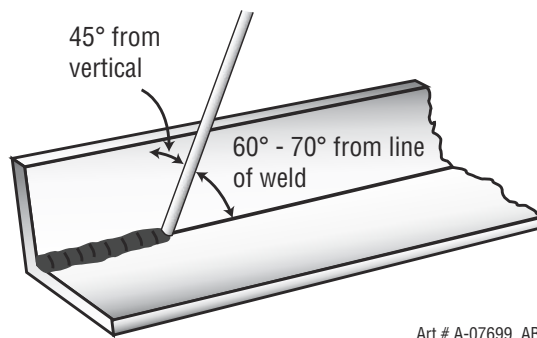
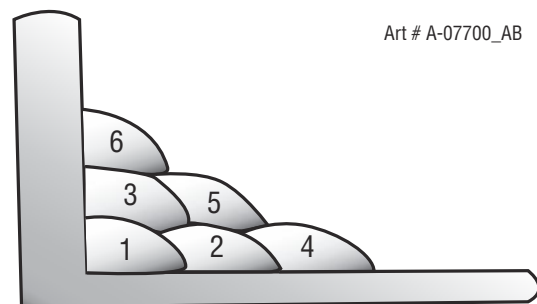

Figure 6-17: Electrode position for HV fillet weld
Figure 6-18: Multi-runs in HV fillet weld
A piece of angle iron is a suitable specimen with which to begin, or two lengths of strip steel may be tacked together at right angles. Using a 3.2mm Ferrocrafter 21 electrode at 100 amps, position angle iron with one leg horizontal and the other vertical. This is known as a horizontal-vertical (HV) fillet. Strike the arc and immediately bring the electrode to a position perpendicular to the line of the fillet and about 45° from the vertical. Some electrodes require to be sloped about 20° away from the perpendicular position to prevent slag from running ahead of the weld. Refer to Figure 6-17. Do not attempt to build up much larger than 6.4mm width with a 3.2mm electrode, otherwise the weld metal tends to sag towards the base, and undercut forms on the vertical leg. Multi-runs can be made as shown in Figure 6-18. Weaving in HV fillet welds is undesirable.